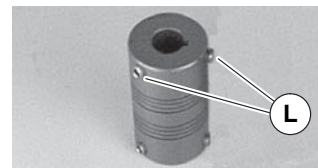

Figure 9
4. Insert hex shaft (Figure 9, item H) into coupling.
Coupling has two (2) set screws (Figure 9, item L).